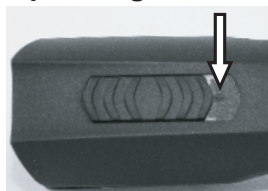

Fig. 4 Switch in OFF-position ("0")
1. Test the contacts of the clipper (1) and the battery (2) for foreign particles and contamination.
2. Assure, that the switch lever of the clipper is in OFF-position ("0") (fig. 4).
1. Move the switch to position "0" (fig.4).
2. Push the battery interlock (2) on both sides inward and pull the battery (1) out of the clipper.